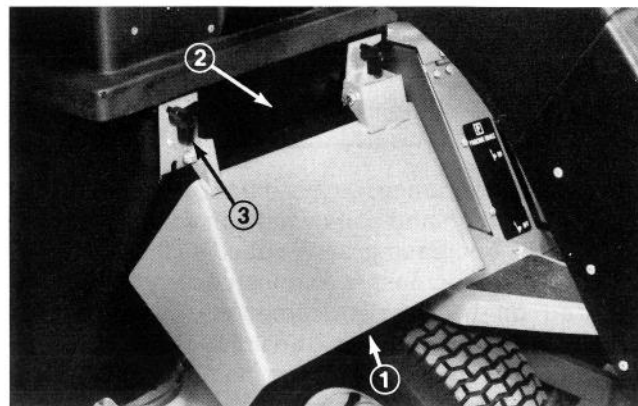

Figure 18
4. Mount cutting unit grass deflector (included in kit) to front of hopper frame with (2) knobs and washers when using grass catcher (Fig. 18).